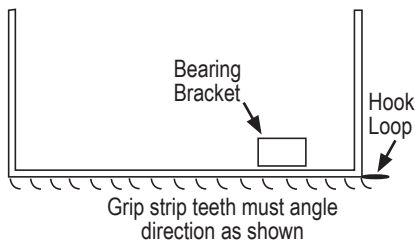

FIG. 3
1. Remove (6) phillips head screws.
3. Gripper strip pins are angled. The angle faces towards the front of the machine (Figure 3). Repeat with (4) remaining gripper strips.